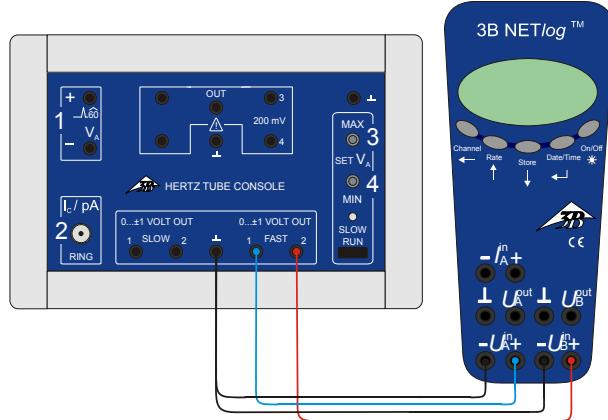

Fig. 2 Connection of 3B NET/log™ to the control unit for critical potential tubes
- Connect the output "Fast 1" from the control unit to input A of the 3B NET/log™ unit and the output "Fast 2" to input B. (See Fig. 2)